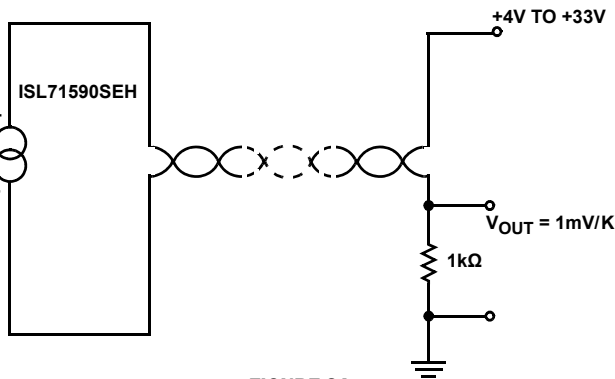

FIGURE 2A.
Connecting just a single ISL71590SEH and resistor as shown in Figure 2A provides the simplest single temperature sensing implementation. The resulting over-temperature output current is shown in Figure 2B illustrating the  $1\mu\text{A}/\text{Kelvin}$  (K) linear performance across the entire operating range of temperature.